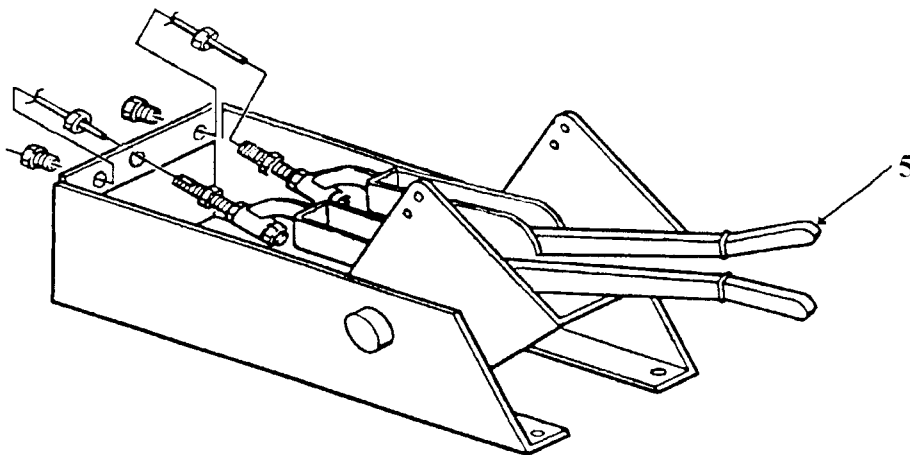
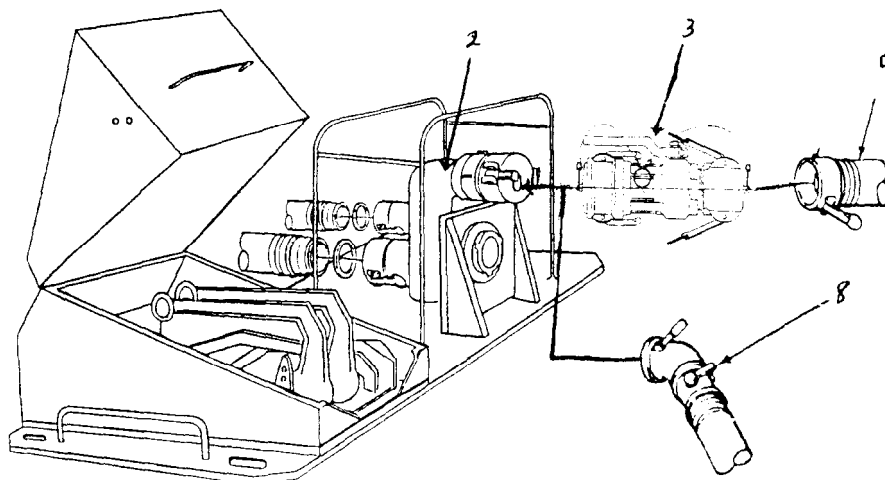
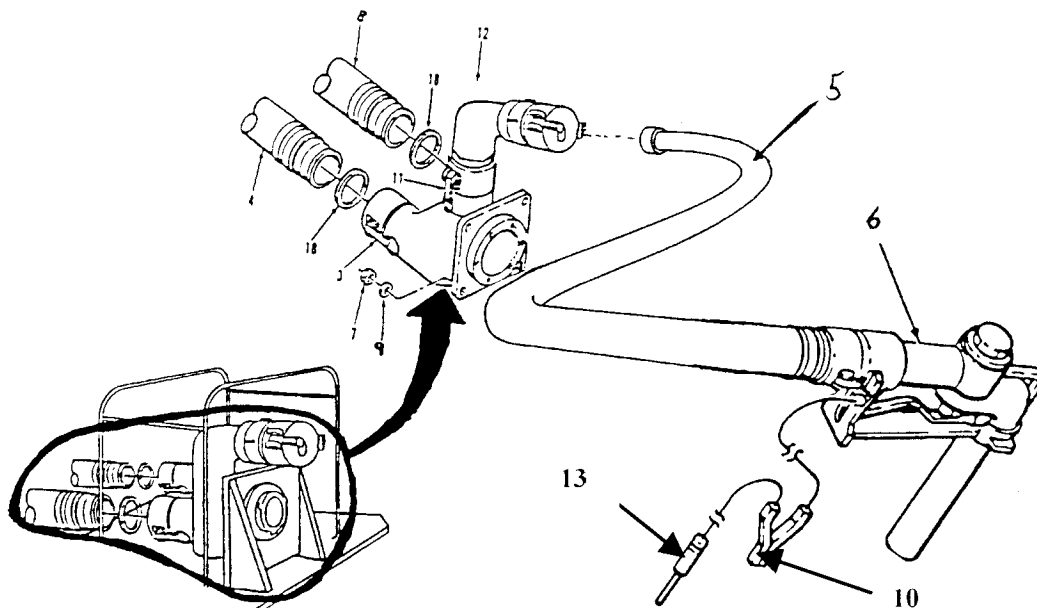

Figure 2-5 " Operating Control Lever "
Figure 2-7 " Refilling Tank Components "
Figure 2-8 " Dispensing Fuel Set-up "
- (2) Check the control lever (5, Figure 2-5) and be certain it is in the "OPEN" position.
(4) Attach dry disconnect coupling (3, Figure 2-7) to the fuel manifold (2, Figure 2-7).
(5) Attach hose (9, Figure 2-7) or D- | nozzle (3, Figure 2-7), whichever is applicable, to the dry disconnect coupling (3, Figure 2-7).
(6) Open valve on dry disconnect coupling (3, Figure 2-7), fill tank. Avoid spilling liquid and do not overfill the tank.
(7) When tank is filled, stop flow of fuel, close dry disconnect valve (3, Figure 2-7). Disconnect D- | nozzle, or Disconnect hose (9, Figure 2-7), drain and stow. Disconnect dry disconnect coupling (3, Figure 2-7) and stow. Cap Bottom Loading Valve (2, Figure 2-7).
(8) Place control lever (5, Figure 2-5) in closed position.
(9) Refill an empty or semi-filled tank at end of a day's operation to reduce condensation during overnight storage.
(4) Connect hose (5, Figure 3-8) and nozzle (6, Figure 3-8) to the Fuel Manifold bottom loading valve coupling ( 12, Figure 2-8).
(5) Connect nozzle ground clamp ( 10, Figure 2-8) or nozzle ground plug ( 13, Figure 2-8) to equipment being serviced, whichever is compatible.
(6) Place control lever (5. Figure 2-5) in "open" position. Insert dispensing nozzle into tank being fueled (Figure 3-9) and squeeze the nozzle lever. Dispense liquid.
(7) The flow may be stopped at any time by releasing nozzle lever. thus closing nozzle. When tank is full. dispensing is complete.
(8) Remove dispensing nozzle from tank. disconnect nozzle ground clamp or plug.
(9) Place control lever in "Closed" position.
(10) Stow the hose (5, Figure 2-8) and nozzle assembly (6. Figure 2-8) and cap the bottom loading valve port (2. Figure 2-7) with dust cap as depicted.
(11) Load safety equipment. Disconnect static ground rod as per paragraph 2-8